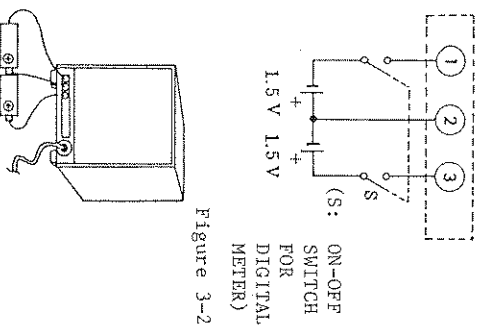

Figure 3-28
- (4) Connect two 1.5V manganese dry cells to terminals ①, ② and ③ of the rear terminal block, in the correct polarity as shown in Figure 3-28.